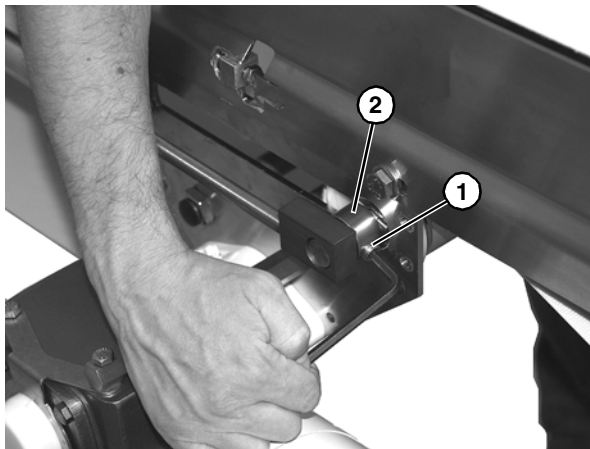

Figure 76
7. Loosen set screw (**Figure 76, item 1**) on locking collar (**Figure 76, item 2**).